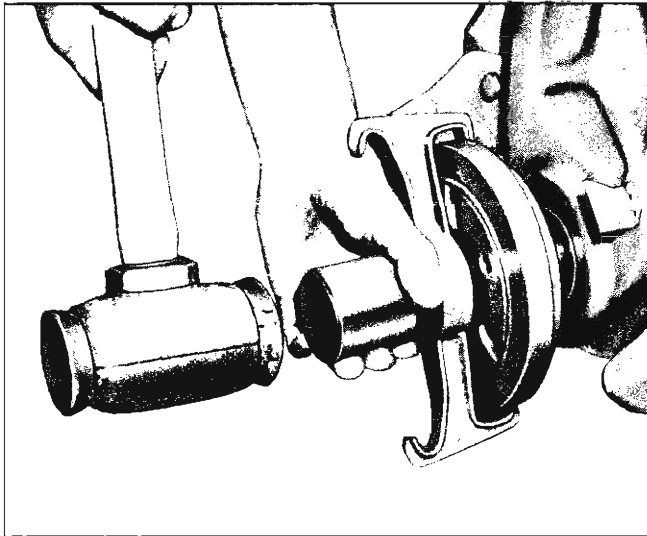

Fig. 11V—Installing Harmonic Balancer
4. Install tool over balancer with pilot adapter in the bore of hub. Tighten threaded driver only finger tight to keep from pulling balancer apart, then drive balancer on to crankshaft (fig. 11V) and remove tool.